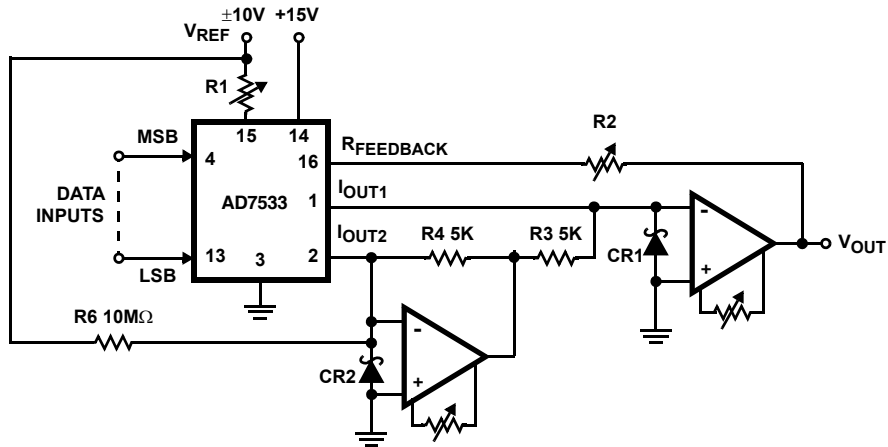

FIGURE 3. BIPOLAR OPERATION (4-QUADRANT MULTIPLICATION)
The circuit configuration for operating the AD7533 in the bipolar mode is given in Figure 3. Using offset binary digital input codes and positive and negative reference voltage values, 4-Quadrant multiplication can be realized. The "Digital Input Code/Analog Output Value" table for bipolar mode is given in Table 2.
12.  $V_{OUT}$  as shown in Figure 3.
13. Nominal Full Scale for the circuit of Figure 3 is given by:
14. Nominal LSB magnitude for the circuit of Figure 3 is given by: